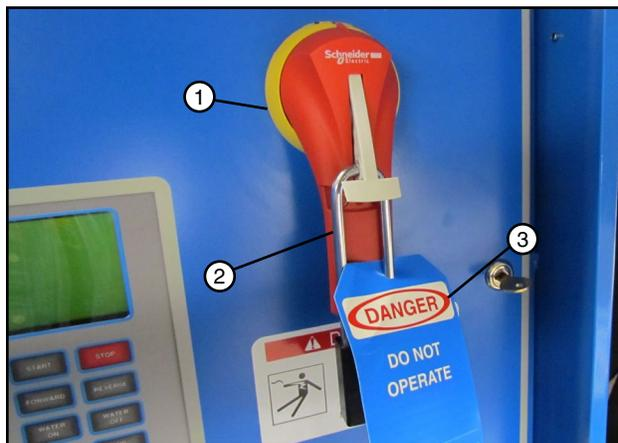

Figure 62-2 1. Main Disconnect 2. Lock 3. Blue Tag
2. Turn the power off at the main disconnect and secure with a lock and attach filled out blue (OSHA safety color code) tag. See Figure 62-2.